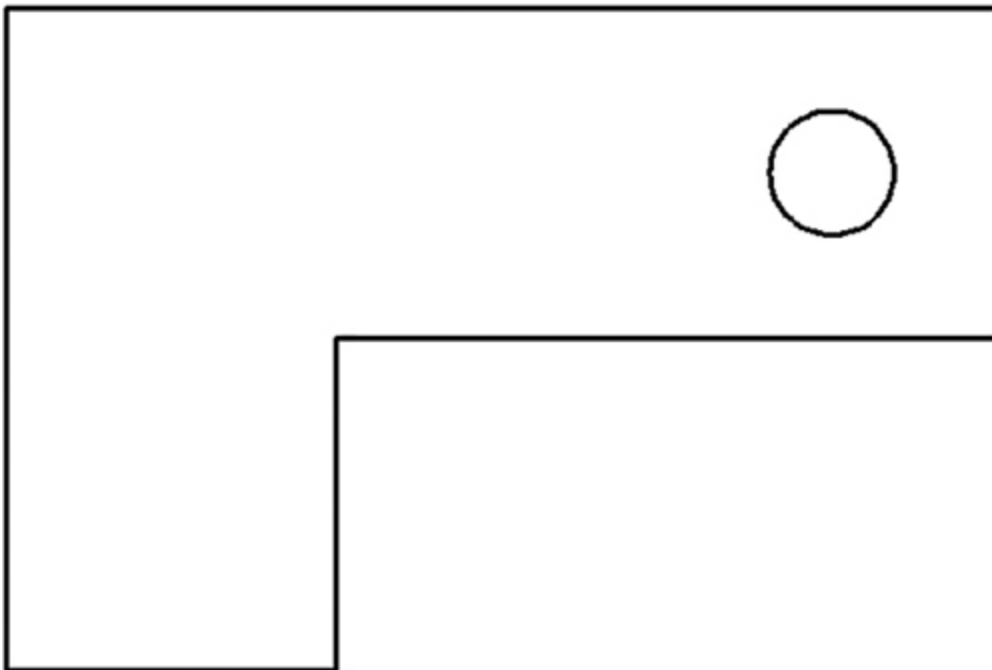

Figure 2-15
- 6 Save your drawing. Your drawing should now resemble Figure 2-15.